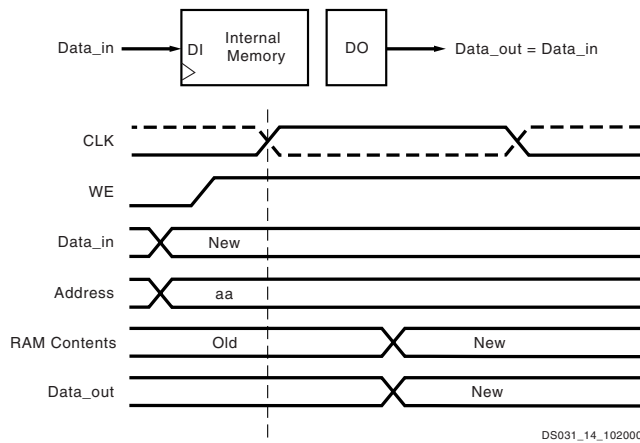

Figure 32: WRITE\_FIRST Mode
The "WRITE\_FIRST" option is a transparent mode. The same clock edge that writes the data input (DI) into the memory also transfers DI into the output registers DO as shown in Figure 32.